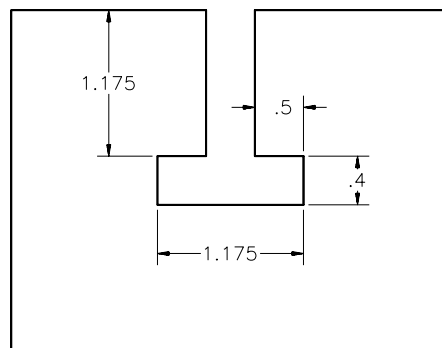

Figure 22-27 Dimensions inside the view
5. All dimensions should be given outside the view. However, the dimensions can be shown inside the view if they can be easily understood there and cause no confusion with the other dimensions or details (Figure 22-27).